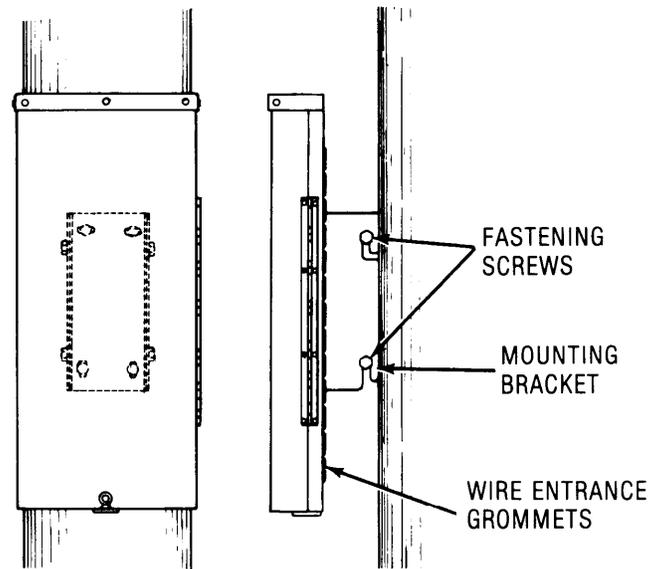

Fig. 8 — Installing Cable Terminal on Pole Mounting Bracket
- (b) Place the terminal on the mounting bracket and tighten the screws to secure the terminal as shown in Fig. 8 and 9.